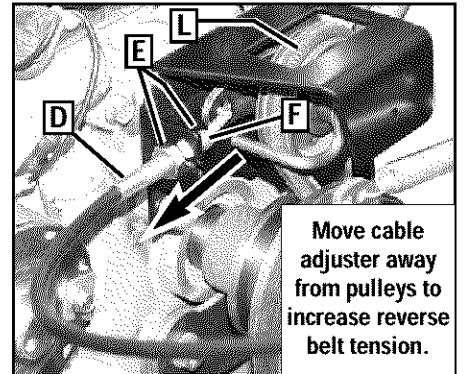

Figure 5-14: Reverse clutch cable adjuster. Left-side view with belt cover removed.
3. Reverse belt tension adjustments are done with the reverse clutch cable adjuster located on the left side of the machine near the engine (D, Figure 5-14). Use two 1/2" open-end wrenches to loosen the two adjuster jam nuts (E) a few turns.
4. Move the cable adjuster (D, Figure 5-14) away from the pulleys to increase belt tension.
reverse clutch belt fully contacts the groove in the engine pulley. Release knob and make sure that the belt doesn't engage the reverse engine pulley (L, Figure 5-14). If it does, it may cause the unit to move in reverse when the Wheel Gear Lever is engaged. Adjust the cable for less tension if this condition occurs. See *Checking and Adjusting Reverse Belt Tension* for more information.